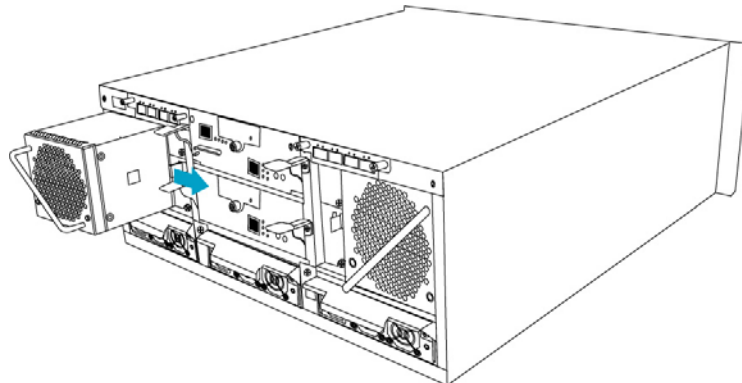

Figure 5-9: Removing the Cooling Module
- Step 1. **Remove the cooling module** by pressing the slide lock on the side of the module towards the center of the chassis and then pulling the module out of the chassis. (See **Figure 5-9**)